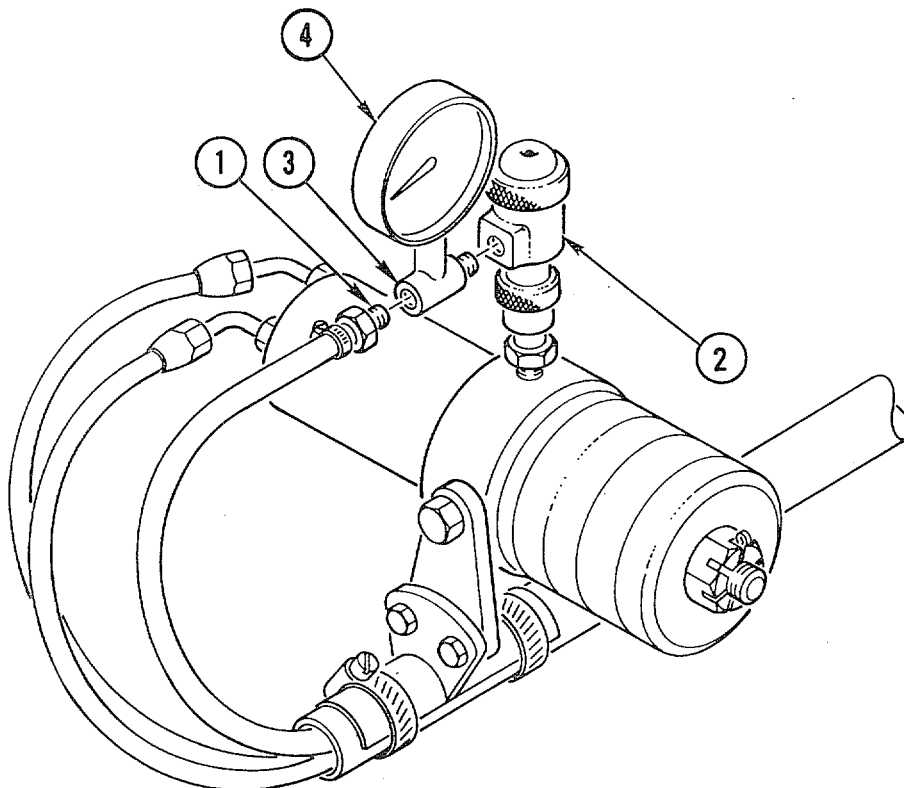

Figure 2-10. ULV Boom Pressure Adjustment
(1) Remove fitting (1) from rotary atomizer nozzle (2) and install test tee (3), pressure gage (4), and fitting (1) as shown in figure 2-10.